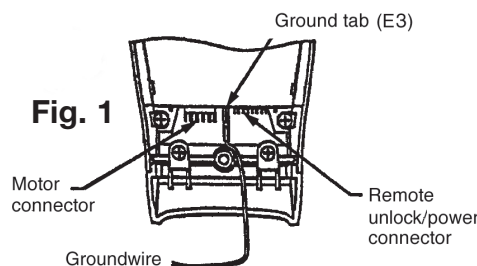

Fig. 2
6. Connect ground wire to terminal E3 (Ref. Fig. 1), keypad ribbon cable connector to controller (Ref. Fig. 2), and ET motor harness to motor connector (Ref. Fig. 3).
8. Insert #8-32 x 1-1/4" screws through inside escutcheon and thread into outside escutcheon. Straighten (Ref. Fig. 2) escutcheons and tighten securely.